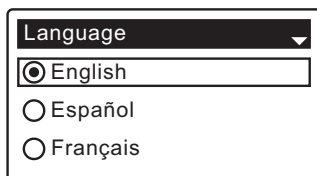

FIG. 19
- 1. LANGUAGE** If the desired language already has a black dot next to it (See Figure 19), go to Step 2. Otherwise, press the softener’s DOWN ▼ or UP ▲ buttons to scroll to the desired language, then press the OK/MENU button to choose it.